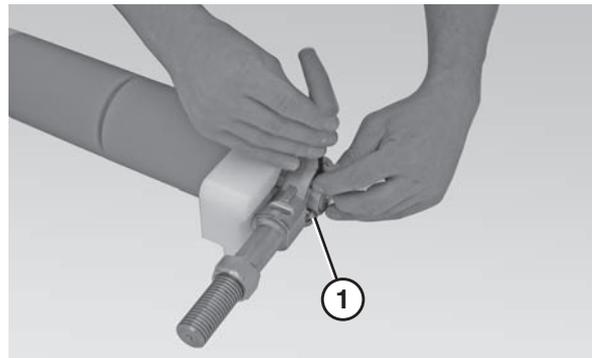

Figure 67
4. Use a 4 mm hex wrench (**Figure 67, item 1**) to loosen the bearing shaft assembly fasteners (**Figure 67, item 2**).